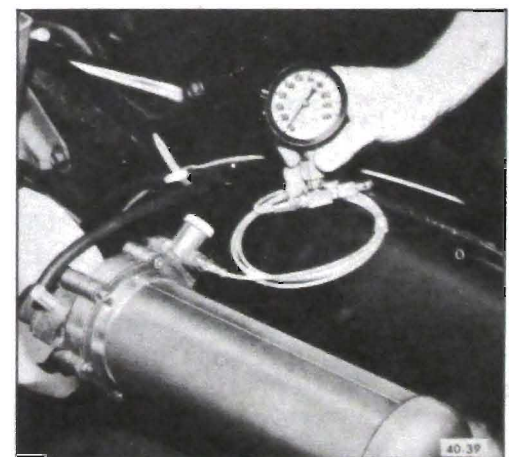

Figure 40-43 - Test Gage Installed on Regulator Valve
1. Deflate system through service valve and disconnect line at pressure regulator valve. Install test gage on regulator valve high pressure fitting. See Figure 40-43.